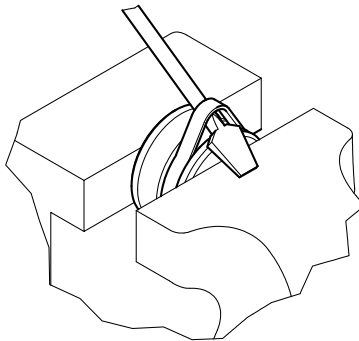

Figure 4-5, Piston Seal
8. Carefully pry up on the piston seals using a blunt tip screw driver being careful not to scratch the seal grooves. Cut the seals to remove from the piston. (Figure 4-5)